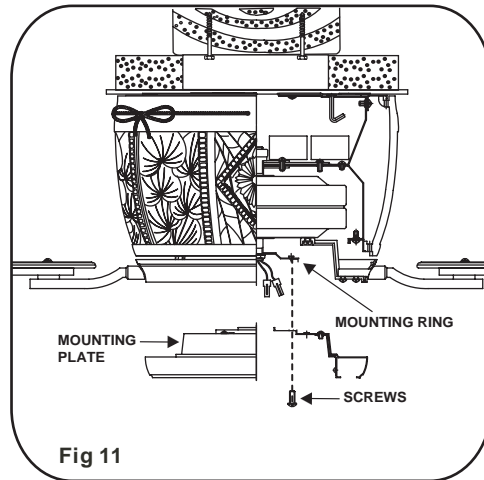

Fig 11
Step 2. Place the key holes from the mounting plate over the 2 screws previously loosened from the mounting ring, turn mounting plate until it locks in place at the narrow section of the key holes. Secure by tightening the 2 screws previously loosened and the one previously removed. (Fig. 11)